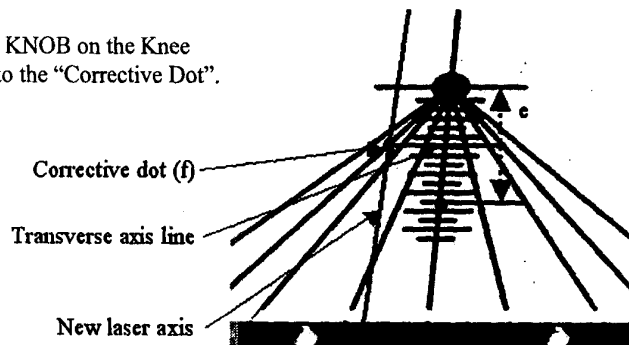

Fig. 15
- Carefully measure the distance between dot **L** and dot **M** with a ruler or by counting the number of 2mm lines on the built-in ruler results in a distance "e" (Figure 15) divide this distance by two. Draw a short midline transverse axis between the dots. (Figure 15)
- Using the same midline distance in mm (one-half of distance "e" make a "Corrective dot" in the direction of the correction on this midline. (Fig. 15)
- With the Knee Laser returned to centerline of the Target, dial the ADJUSTMENT KNOB on the Distal Femoral Resector Guide to a parallel position with the "Corrective Dot". This adjustment will correct the longitudinal axis of the Knee to the center of the femoral head. (Fig. 15 & 16)